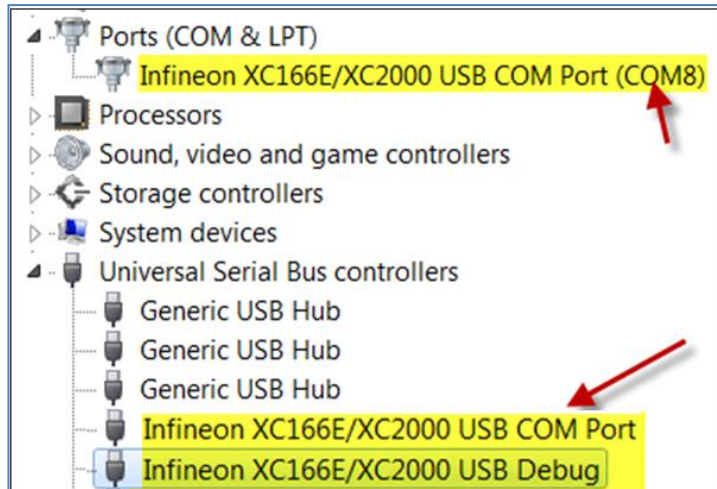

Figure 81
4. Open Window's Device Manager and ensure highlighted items in Figure 81 have been identified by the Windows.